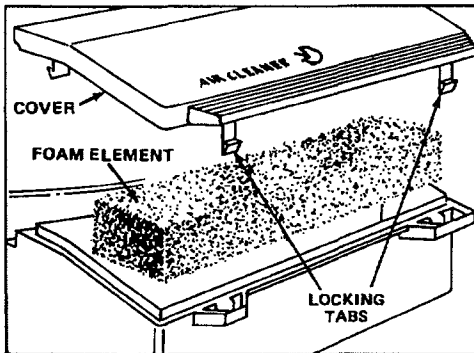

Figure 14
2. Push in locking tabs and lift off air cleaner cover. Clean cover thoroughly (Fig. 14).
3. If top of foam element is dirty, remove it from air cleaner body (Fig. 14). Clean thoroughly.